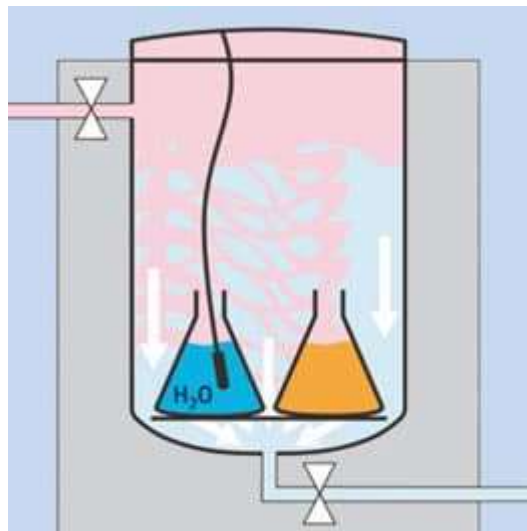

Figure 2 – sensor placement in the reference vessel
- b. A temperature sensor for measuring inside the reference vessel is required to ensure that the sterilization temperature inside the liquid is achieved, see Figure 2.